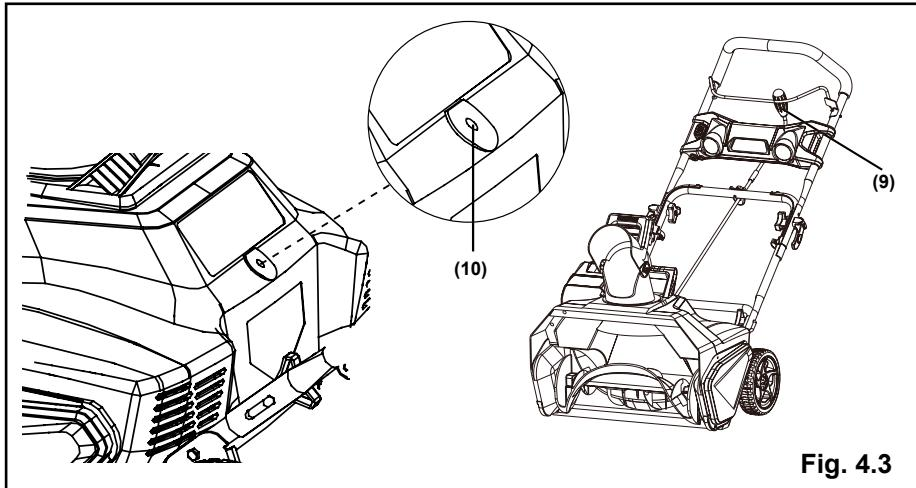

Fig. 4.3
- Ensure that the handle (9) of the chute control rod points upward, and insert the rod into the keyed hole (10) in the back of the housing. (Fig.4.3)